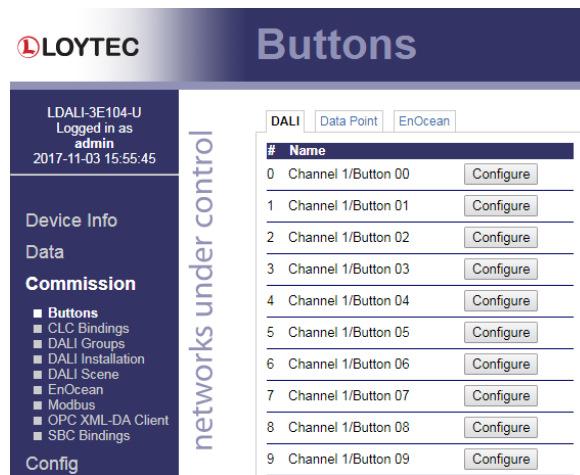
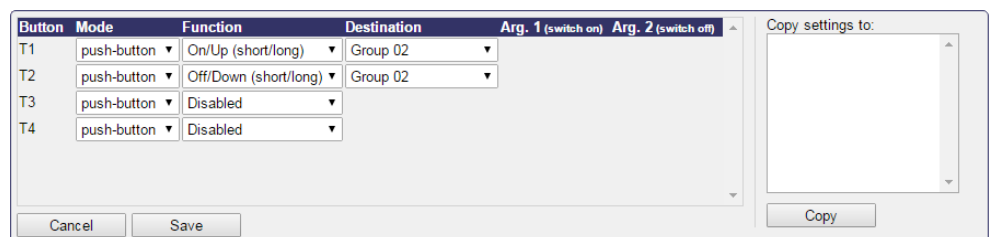

Figure 79: Button Functions.
Figure 80: Configure DALI button functions.
1. On the **Buttons** page, stay on the **DALI** tab (see Figure 79) and click on the **Configure** button next to the button device that is to be configured. The dialog shown in Figure 80 appears.